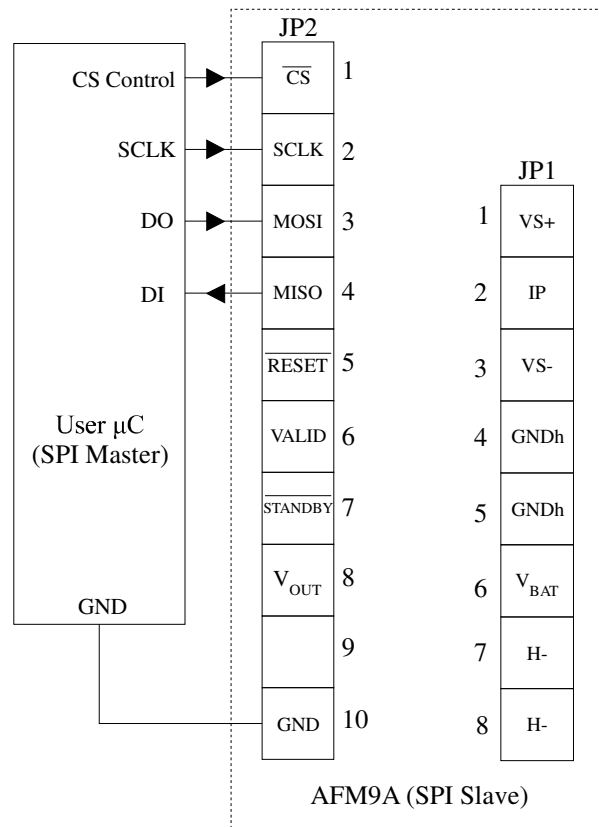

Figure 4. SPI Connections
The AFM9E is connected to a SPI master as shown in Figure 4. The AFM9E operates in SPI slave mode 0 with an alternative implementation of the Slave Select called Chip Select (CS). Table 3 lists how each connection should be configured on the user microcontroller. All signals connected to the AFM9E should adhere to the V_{OH} , V_{OL} , V_{IH} , and V_{IL} values in Section 11.